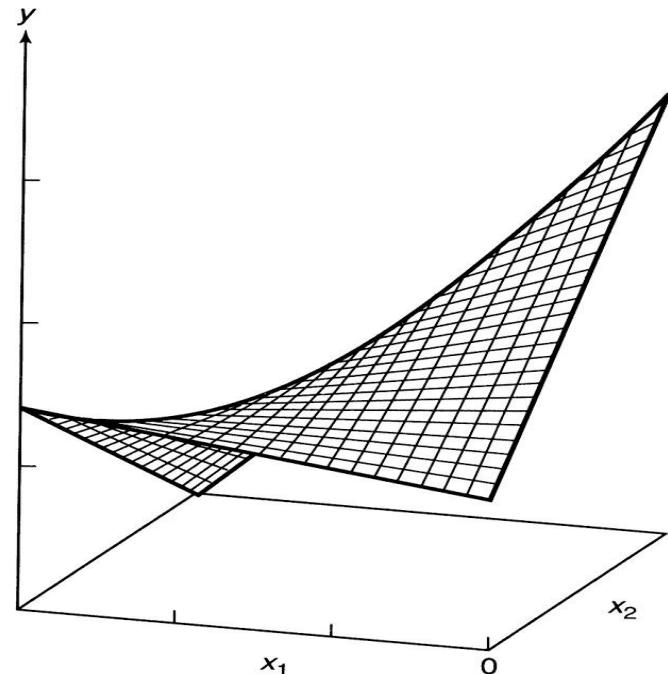

Figure 5.10 Response surface for an interaction model (second-order)
- β_3 : Controls the rate of twist in the ruled surface (see Figure 5.10)